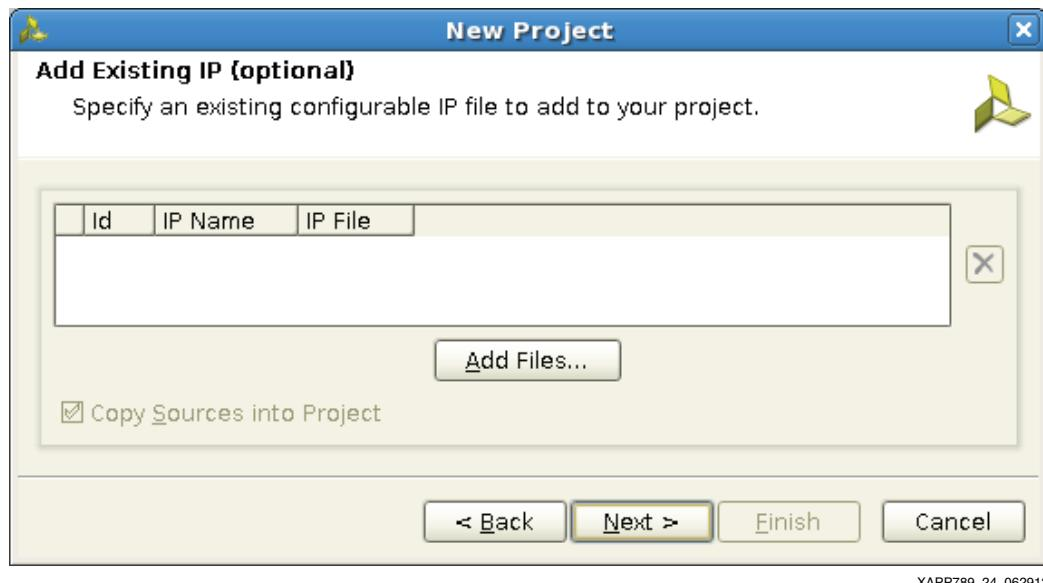

Figure 24: New Project Window (Add Existing IP)
9. Click **Next** in the Add Existing IP window to create an empty project (Figure 24).